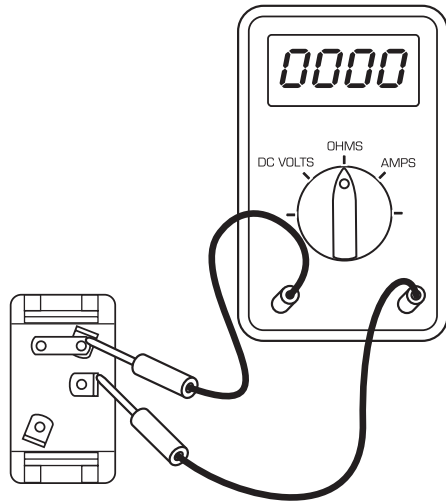

Figure 57
- Switch OFF.** Connect the ohmmeter between the rocker switch input power terminal and its output power terminal (Figure 57). Ohmmeter must indicate **no continuity**.